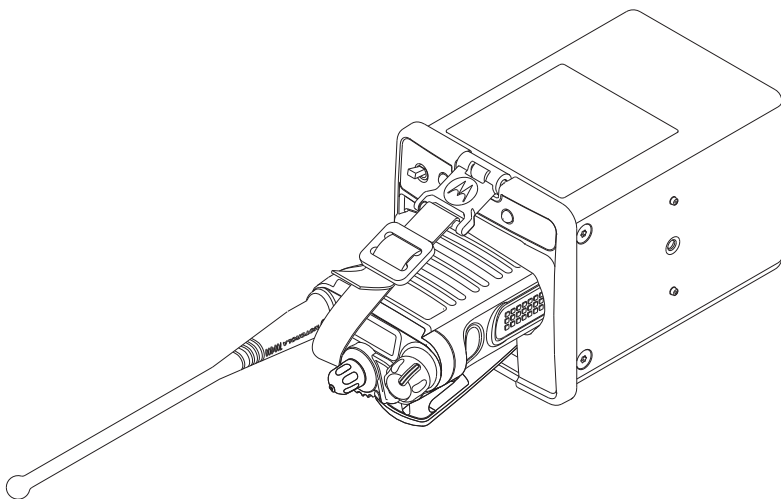
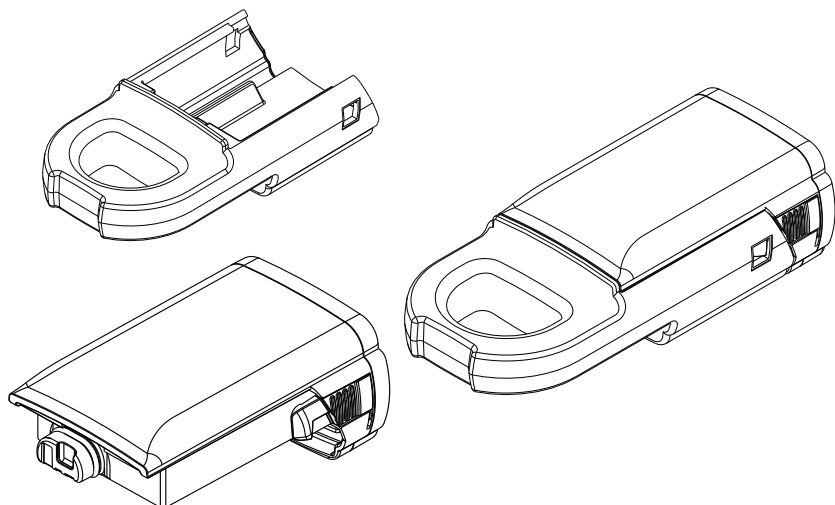
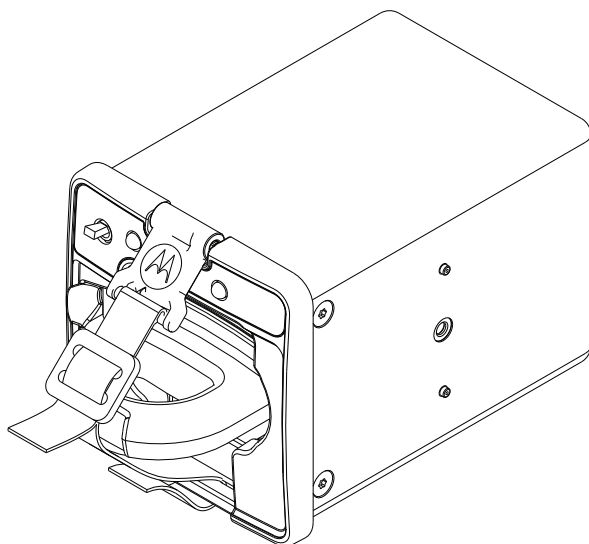

Figure 7 Radio with Battery, Antenna, PSM, or RFA Attached.
Figure 9 Installation of Li-Ion Battery onto NNTN7688 Adapter.
Figure 10 Li-Ion Battery with Adapter
5. For radios with an antenna installed, loop the strap between the base of the antenna and base of the channel selector, and then engage the latch onto the Top Engagement Bar on the Faceplate. Adjust the strap through the Tri-Glide to secure radio with battery attached within the Vehicular Charger (Refer to Figure 7).
For radios with a Public Safety Microphone (PSM) and RF Adapter installed, adjust the strap through the Tri-Glide to secure radio with battery attached within the Vehicular Charger (Refer to Figure 7).
For charging a nickel or non-NNTN7038 lithium battery that is not attached to a radio, loop the strap over the top of the battery, then engage the latch onto the Top Engagement Bar on the Faceplate. Adjust the strap through the Tri-Glide to secure battery within Vehicular Charger (Refer to Figure 9).
6. For charging lithium battery, NNTN7038, that is not attached to a radio, engage the battery onto the adapter (Refer to Figure 9) before inserting into the charger pocket and then loop the strap over the top of the battery adapter, then engage the latch onto the Top Engagement Bar on the Faceplate (Refer to Figure 10).
When the radio/battery are in the charger pocket, fasten the safety strap as shown in Figure 7. If a battery alone is in the pocket, fasten securely as shown in Figure 9 or Figure 10. This will prevent the battery from being shaken out of the charger during rough traveling conditions, and will also prevent it from becoming a dangerous projectile in the event of a vehicle crash.